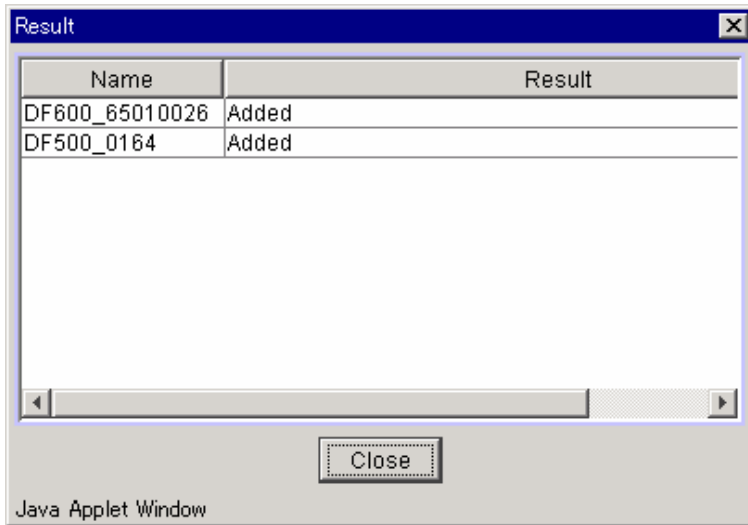

Figure 4.10 Result Window
6. The Result screen shows that subsystems are added. Click **Close**. See Figure 4.10.